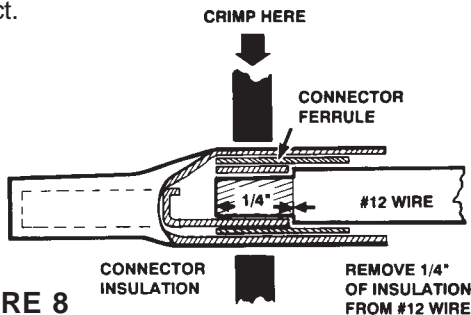
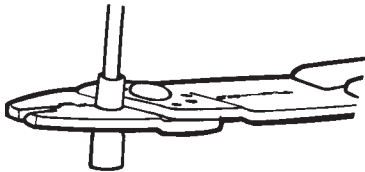
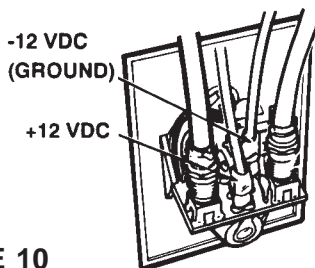

FIGURE 8
FIGURE 9
FIGURE 10
STEP 8. Install terminals on wires from 12 VDC source as shown in Fig. 8. Crimp terminals with Craftsman type 4 crimping tool in Fig. 9 or equivalent. Push wires onto tabs on terminal board as shown in Figure 10. If in doubt as to the polarity of the wires, connect them temporarily to tabs on circuit board in Fig. 10 and move switch on front of outlet to left, (in Fig. 11) if light comes on polarity is correct.